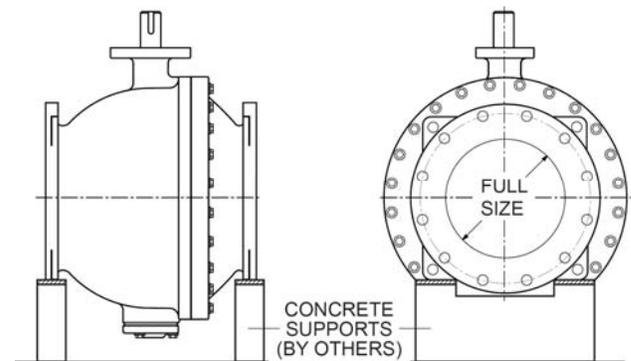

FIGURE 5. Support Valve Weight
VALVE SUPPORT: The valve is designed with integrally cast pads for lifting and supporting the weight of the valve on a suitable hanger, support, or concrete pier. The support system should be designed to support the weight of the valve and not the axial motion of the piping system, see Figure 5.
instructions. To maintain the integrity of the valve, it is important to avoid subjecting the valve to pipe loads that could drive the valve out of round. The valve is designed for vertical support from a concrete support or similar structure, see Figure 5. The valve support pads should not be anchored to the concrete support but instead rest on a slide plate to avoid axial pipe loads. Piping to and from the valve should be adequately supported and controlled. Piping design requirements should include allowable flange loadings, thermal expansion and contraction, and differential settlement.
6. Remove old packing (13) with packing hook.
9. With valve in the closed position, place actuator over valve and reinsert key (24).
TRAVELING NUT ACTUATOR MAINTENANCE: A typical traveling nut actuator is shown in Figures 5 and 6 and consists of a threaded nut (12) which travels back and forth on a threaded stem (14). The stem is lubricated with EP2 grease in a cast iron housing (1). The nut, in turn, drives a slotted lever (4) through 90 degrees of travel. The lever (4) drives the valve shaft with a square key. The rotation of the shaft is displayed by the top indicator (19).